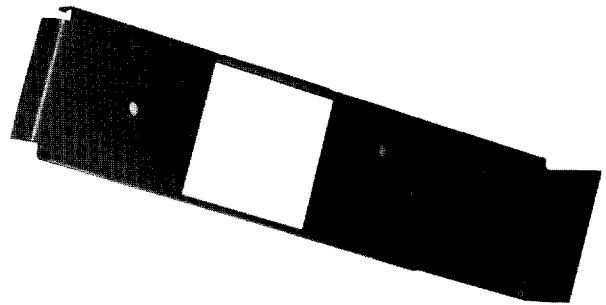

Fig. 13 Secondary Disconnect Support
Mount secondary disconnect support (Fig. 13), with two (2) .25" (6.35mm) self tapping screws through spreader assembly in right rear of breaker compartment into the secondary disconnect support. Attach bottom of secondary disconnect support to position switch mounting surface,  $9.312 \pm .033$ " ( $236.538 \pm .838$ mm) below datum "A" with two (2) .25" (6.35mm) self tapping screws with front surface of secondary disconnect support parallel with datum "E".